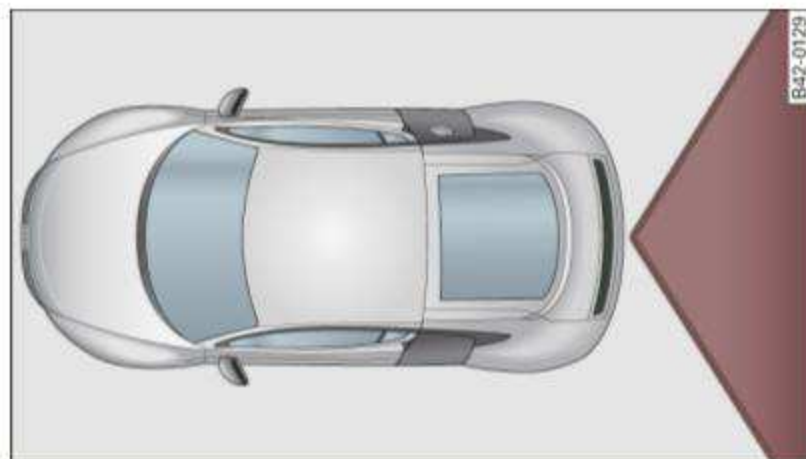
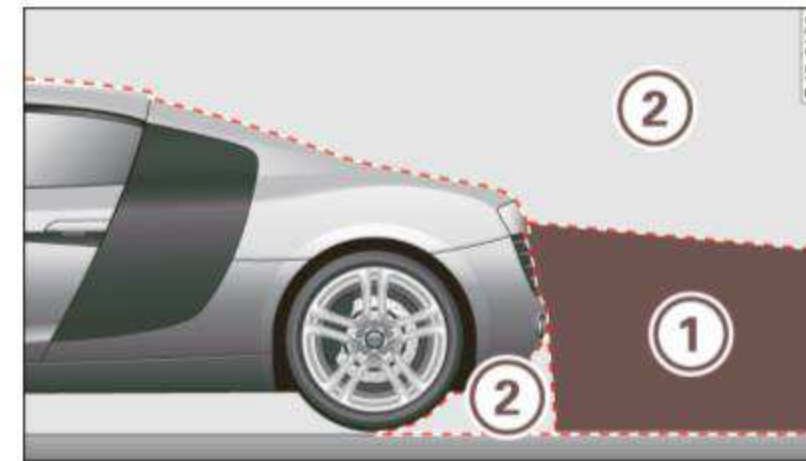

Fig. 76 View from top:
Fig. 77 Side view:
The rearview camera shows you the area behind your vehicle in the navigation system display. This area roughly corresponds to the area in ⇒ fig. 76 and ① ⇒ fig. 77. Orientation lines and colored surfaces are projected in the area shown, which can help you with parking and maneuvering. Objects that are located in an area that is not captured by the camera ② ⇒ fig. 77 and that are closer to the bumper will not appear on the navigation system display. ■
- The rearview camera does not show the entire area behind the vehicle ⇒ page 95, fig. 77. Watch out especially for small children and animals because the rearview camera cannot always detect them.
- **The rearview camera does not show the entire area behind the vehicle \Rightarrow *page 95*, fig. 77. Watch out especially for small children and animals because the rearview camera cannot always detect them.**